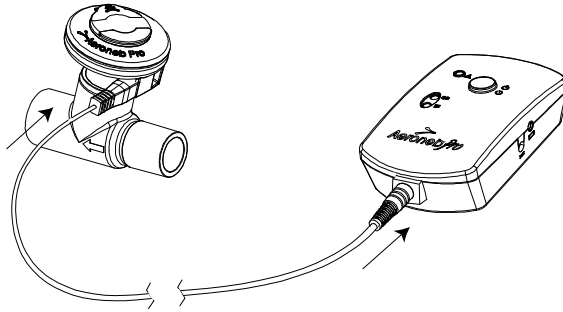

Figure 4: Connecting control module and nebulizer unit
5. Connect the control module and the nebulizer unit together using the control module cable (Figure 4).